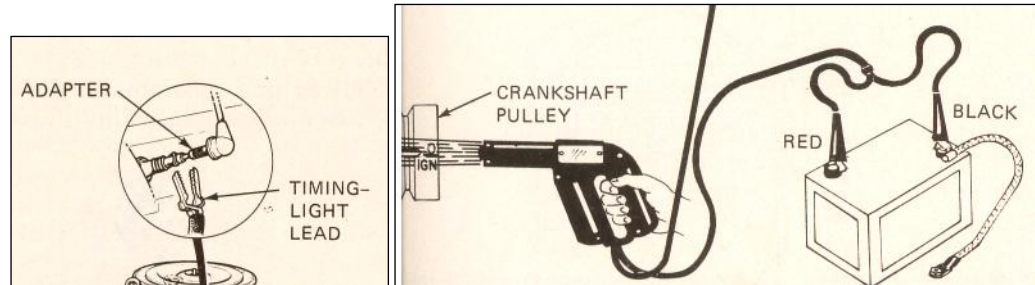

Fig. 1 A timing light is used to check ignition timing
2. Connect the timing-light lead to the No. 1 spark plug, as shown in (Fig. 1).